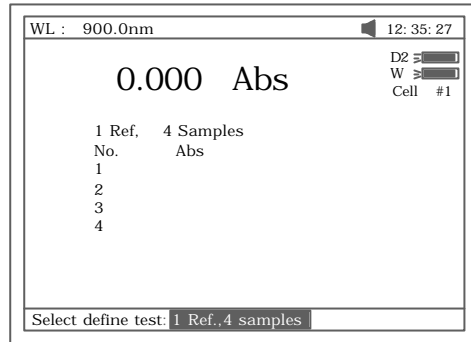

Fig 102
1. Press **【F1】** to setup method (Fig 102). There are 8 items (1 ref. 1 sample, 1 ref. 2 samples, 1 ref. 3 samples, 1 ref. 4 samples, 1 ref. 5 samples, 1 ref. 6 samples, 1 ref. 7 samples, N refs. N samples) for selecting. We take “1 ref. 4 samples” for example, Fig 102